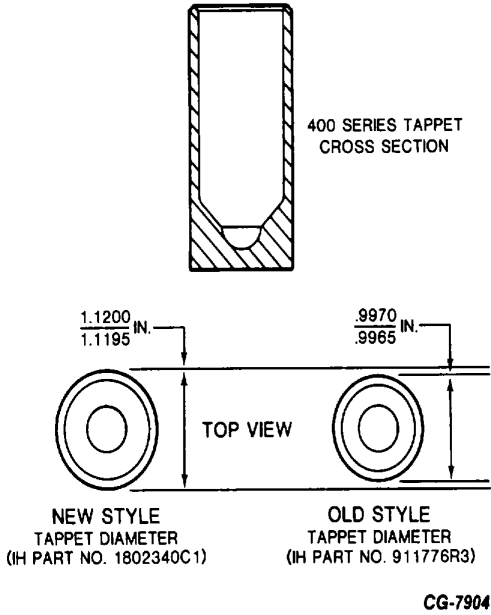

Figure 7. - Tappet Identification
I. REVISED 400 SERIES TAPPET WITH INCREASED DIAMETER (Refer to Fig. 7).